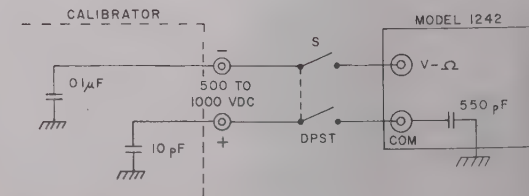

Figure 9A. High Common Mode Application Circuit
Do not operate the meter with more than 500 volts common mode or damage to the instrument may result. When monitoring sources greater than 500 volts where one terminal is at line ground or neutral potential, that terminal should be connected to meter COMMON. Many commercial isolated power supplies if left ungrounded are capable of producing excessive common mode voltages when operating with greater than 500 volts output under certain conditions. In figure 9A, representing a typical calibrator, a large $0.1\mu\text{F}$ capacitor is often provided from (–) output terminal to ground. The other capacitor is figure 9A represents stray in the instrument from (+) output terminal to ground. If the calibrator has its (+) positive terminal connected through (S) to common (–) of the instrument and its negative terminal connected to (V – Ω) input of the instrument, the output of the calibrator will appear as a common mode signal to the instrument. When switch (S) is closed and the output of the supply is greater than 500 volts, the common mode rating of the instrument will be exceeded. To eliminate this possibility during this particular high voltage measurement, the COMMON input to the instrument should be grounded.